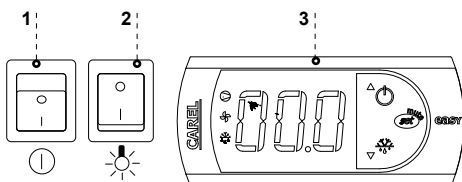

Fig.7 Control panel
- Turn on the main switch Fig.7/1 (p.15), which activates the temperature regulator, and then aggregate of the device
- Set the temperature on thermostat control panel Fig.7/3(p.15) (service details on p.19 or 20)
- Turn on the lighting switch Fig.7/2 (p.15)